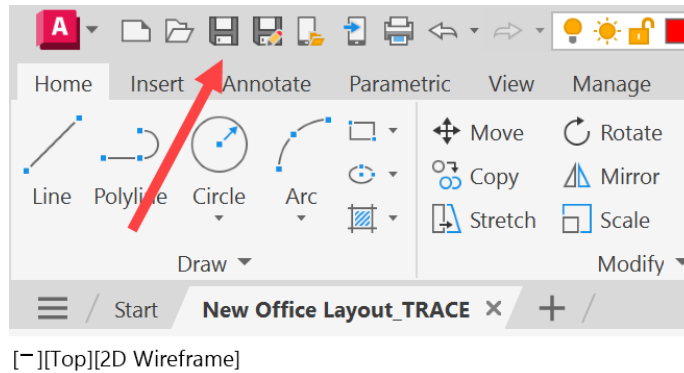

Figure 16.37: Using the Save icon to save the DWG back to the cloud
9. Make sure to save the drawing back to the cloud with the edited trace text. Use the **Save** icon on the QAT, as shown in *Figure 16.37*.